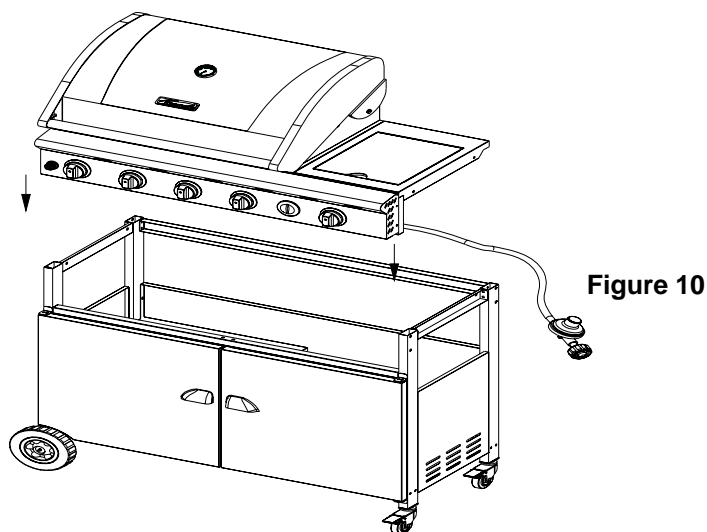

Figure 10
3. Align screw holes located on the outside of the grill. (Fig.10)